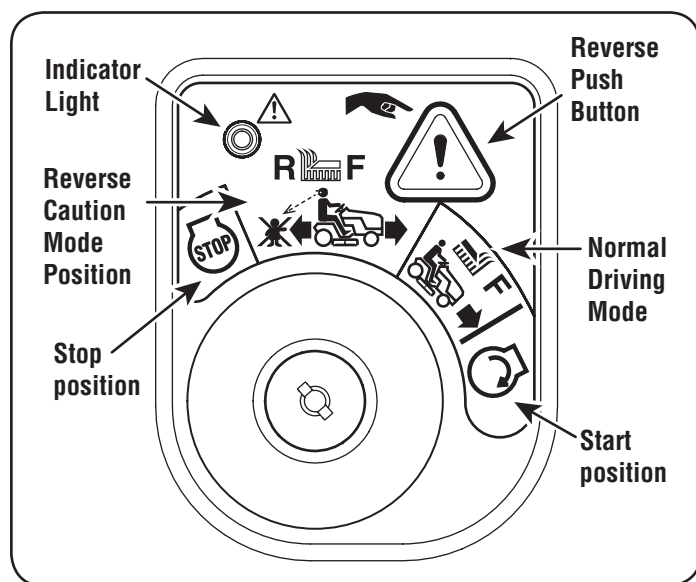

Figure 11
2. Turn the key from the NORMAL MOWING  (Green) position to the REVERSE CAUTION MODE  (Yellow) position of the ignition module. See Figure 11.
3. Press the REVERSE PUSH BUTTON  at the top, right corner of the ignition module. The red indicator light at the top, left corner of the ignition module will be ON while activated. See Figure 11.